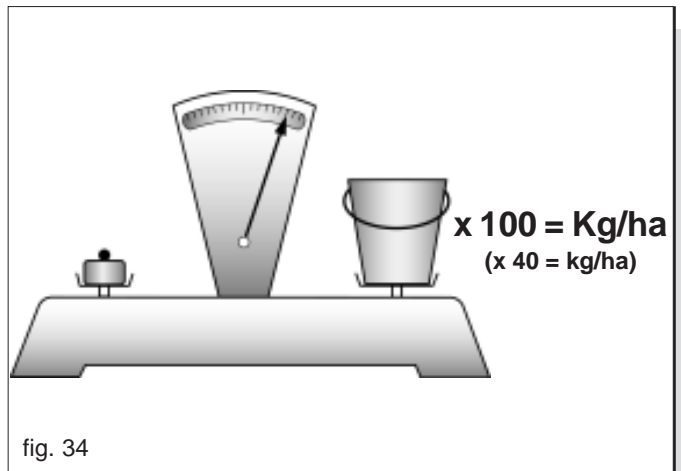

fig. 34
- 7) Weigh the seed collected in the trays and multiply the weight by 100 or 40, depending on the number of rotations made. The value obtained is the number of kilograms distributed per hectare (Fig. 34).